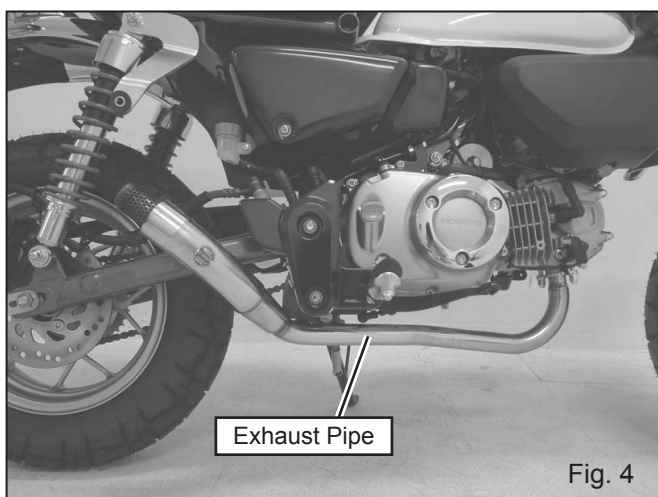

Fig. 4
- 4) Replace stock gasket at exhaust port of engine with new one. Then, mount Exhaust Pipe with stock nuts (See Fig. 4 & 5). Tighten nuts by hand only at this stage.